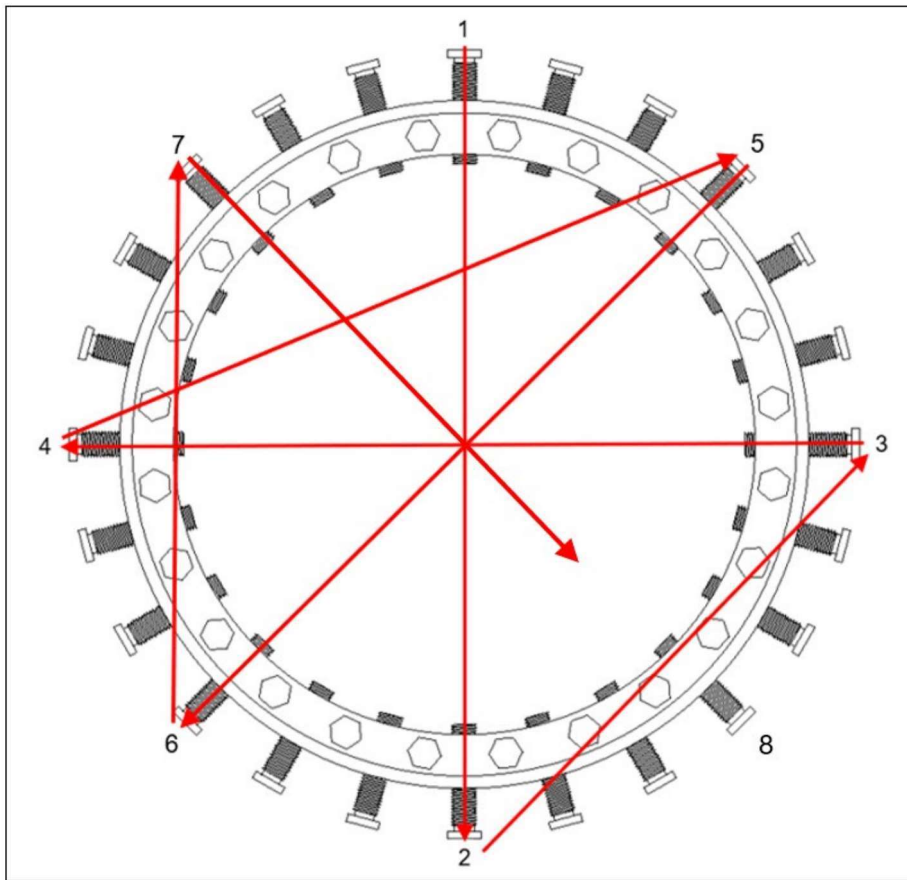
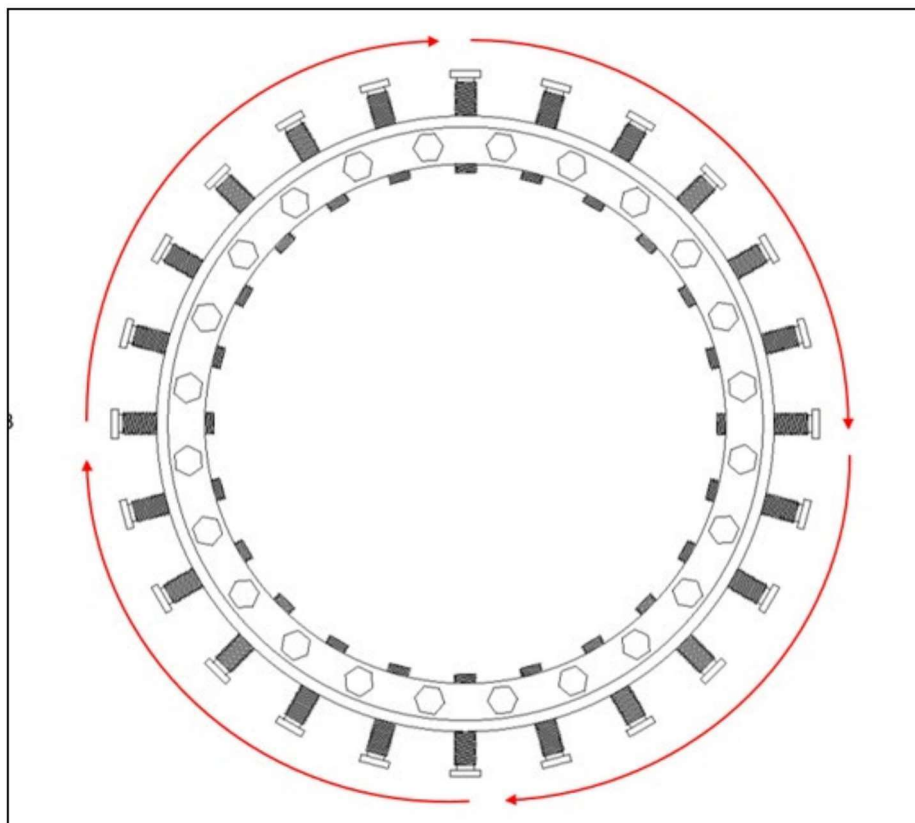

Figure 3
Figure 4
7. Clamp screws must be tightened evenly while maintaining an equal space between the pipe and the fitting. Tighten the clamp screws one at a time in a repeated sequence that matches Figure 3. The first time through the sequence, tighten the screws to 25% of the torque. The second time through, tighten the screws to 50% torque. The third time through, tighten the screws at 100% torque. Then, follow a circular tightening sequence that matches Figure 4, at 100% torque, until the Clamp Screws are unable to continue spinning.